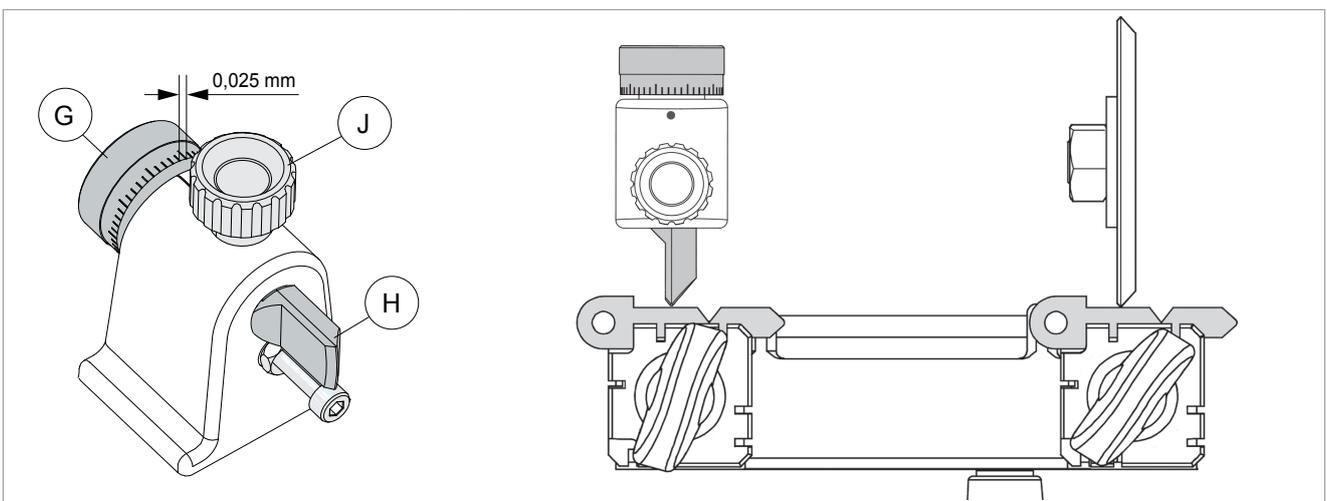
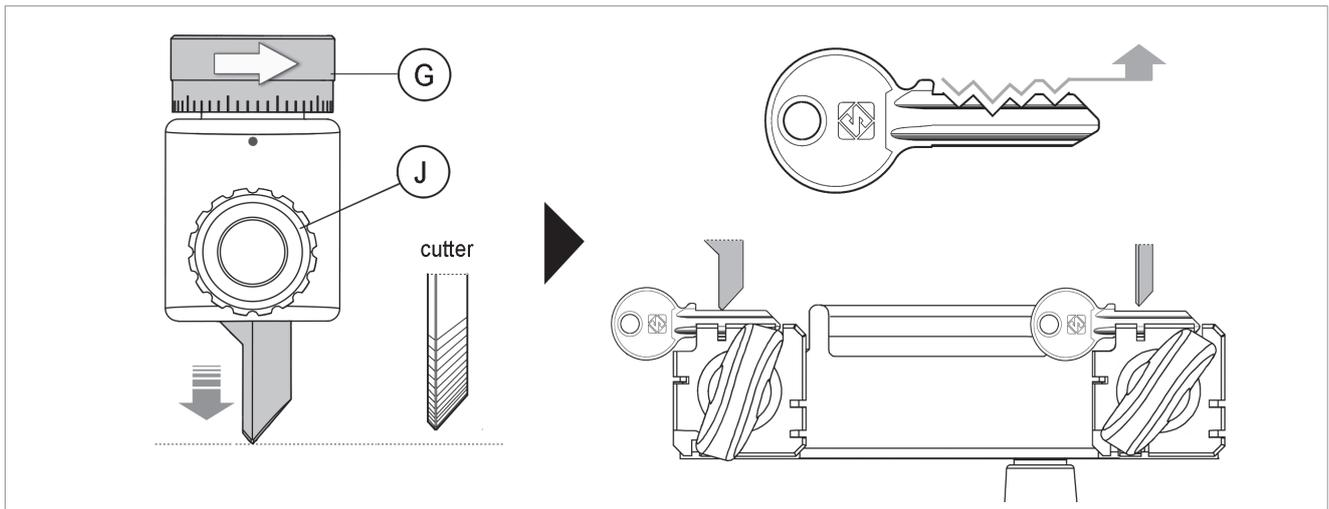

Fig. 21
Fig. 22
- 7) Move the keys into contact with the cutting tool and tracer point (Fig. 21).
- a) loosen the tracer point locking knob (J).
- b) turn the ring nut (G) clockwise to advance the tracer point (shallower cuts) (Fig. 22).
**NOTE: each notch on the centesimal ring corresponds to 0,025 mm (.00098") (Fig. 21).**